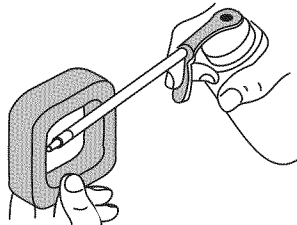

Fig. 26
- Apply enough clean SAE 30 motor oil to lightly coat the filter (Fig. 26).